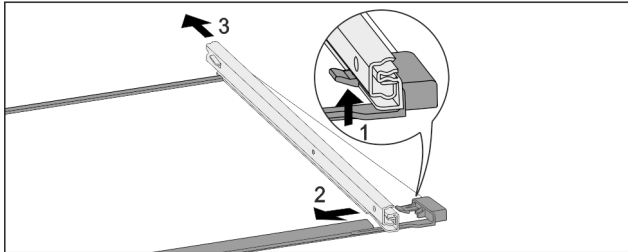

Fig. 253 Glass shelf with rails
- ▶ Push up front click-in hooks. Fig. 253 (1)
- ▶ Move the pull-out rails to the side Fig. 253 (2) and to the rear Fig. 253 (3).